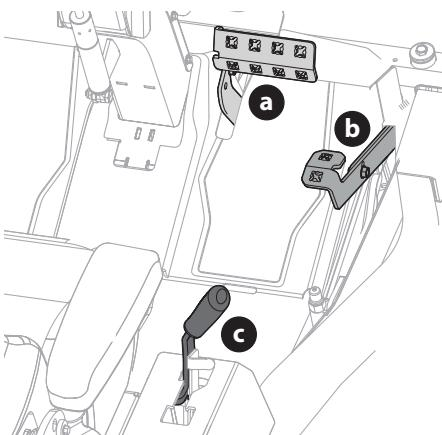

Figure 27
- To travel FORWARD, slowly press the forward drive pedal (a) forward until the desired speed is achieved (Figure 27).
- To stop or slow down the tractor, take your foot off of the forward (a) or reverse drive (b) pedal. To lock the parking brake, place drive control pedals in neutral and pull the park brake lever (c) back until it locks into the "ON" position (Figure 27).
- To travel in reverse, check that the area behind is clear, then slowly push down on the reverse drive pedal (b) with the ball of your foot (NOT your heel) until the desired speed is achieved (Figure 27).